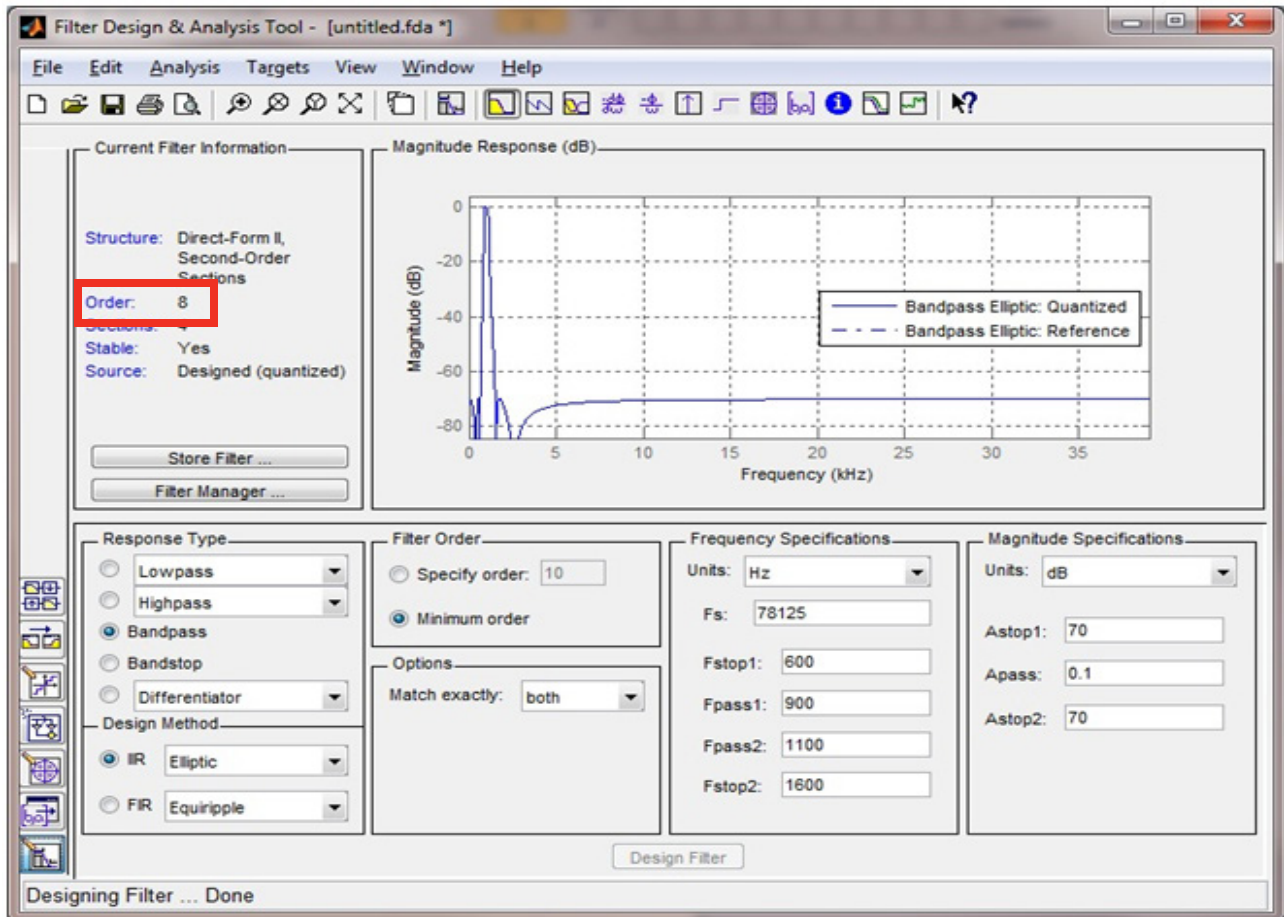

Figure 6. Order number must be less than 256
- The "Order" number (see Figure 6) must be less than 256 in order to meet the architecture of the U8903A Audio Analyzer. Changing the "Design Method" will change the order number.